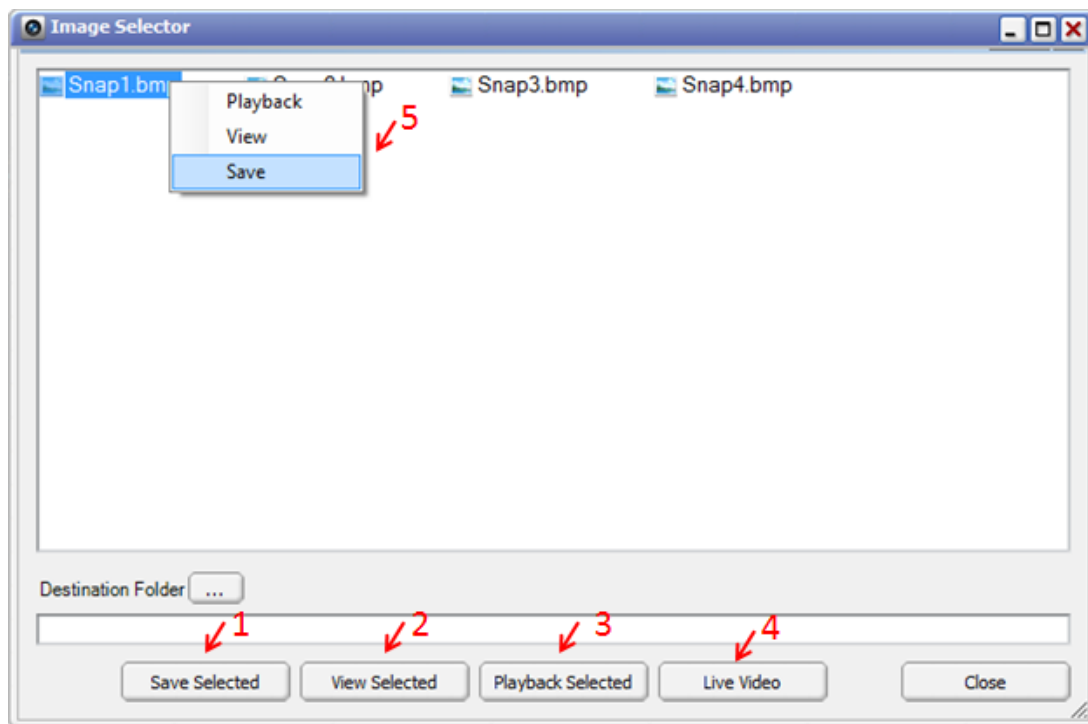

Figure 27 – 8-bit Snapshot Management
- Select the snapshot and use the “Save Selected” button from the Image Selector window (figure 27, #1)
- Right-click on the snapshot in the Image Selector window and select “Save” from the drop-down list (figure 27, #5)
- Select the “View Selected” button (figure 27, #2) in the Image Selector window
- Right-click on the snapshot and select “View” from the drop-down list (figure 27, #5)